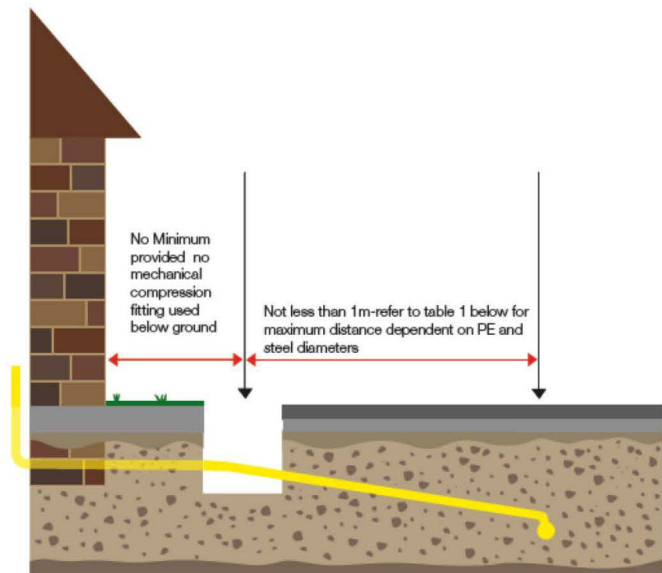

Figure B1c – Fitting distance requirements
- No distance restriction if using electrofusion fittings only (see Figure B1c below)